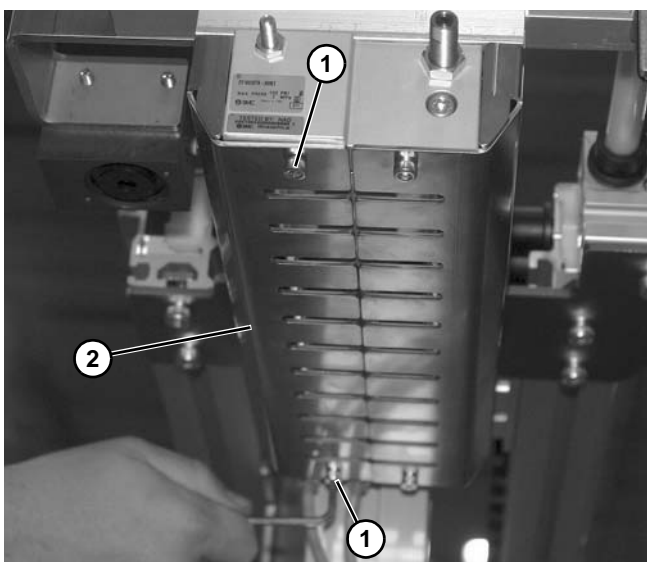

Figure 87
1. Remove screw (Figure 87, item 1) from each end of outer guard (Figure 87, item 2).